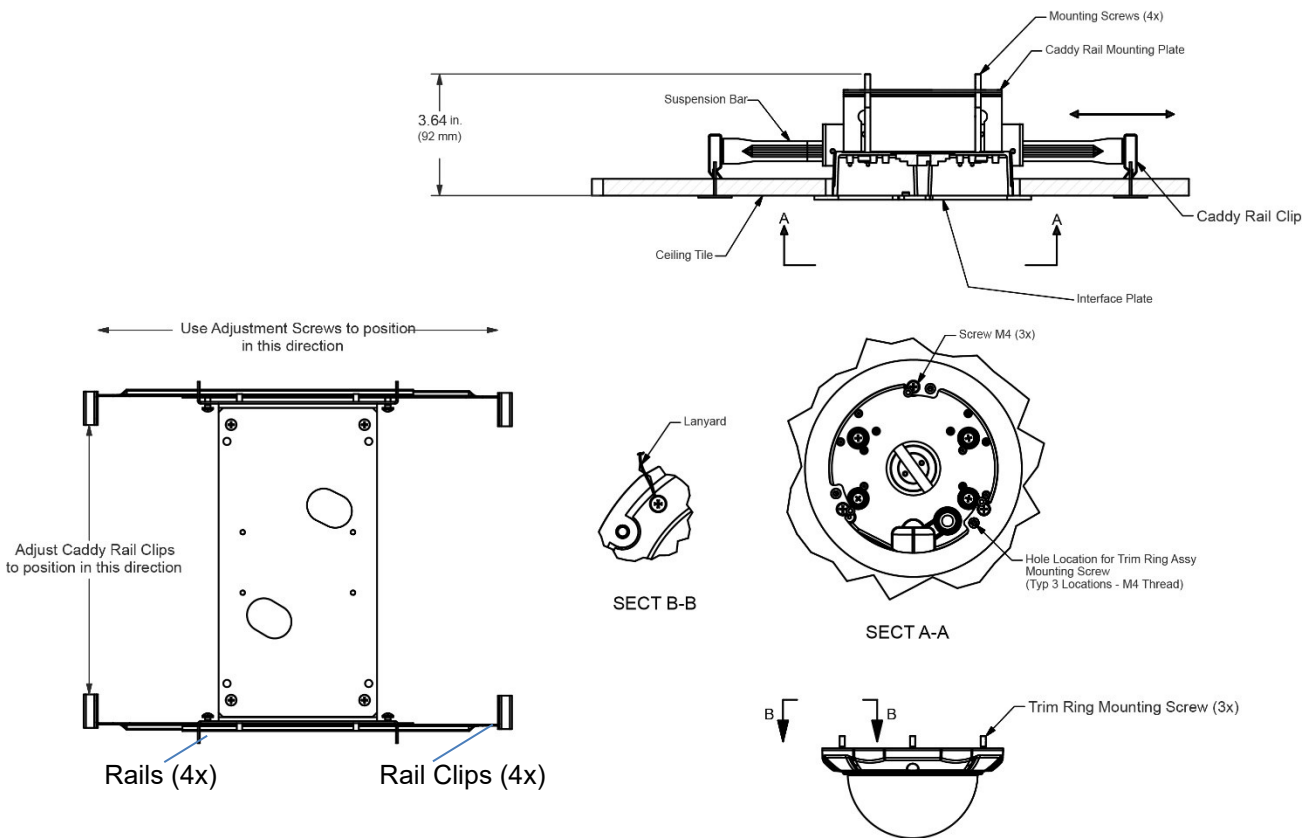

**Figure 2**
2. Install the interface plate onto the base of the V940D with the three (3) flat head screws provided. Reattach the lanyard inside the base.
4. Secure the V940D assembly with interface plate to the mounting bracket using 3 holes are provided. Be sure to orient the base so the cable access hole in the base is not blocked by the bracket. Refer to Figure 2.
5. Compress the mounting bracket and insert it into the hole in the ceiling. The right angle sides of the bracket will be outside the hole at the bottom. Refer to Figure 2.